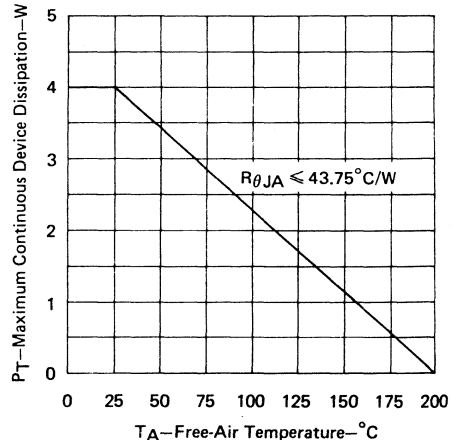

FIGURE 9
4. Derate linearly to 200°C free-air temperature at the rate of 22.9 mW/°C or refer to Dissipation Derating Curve, Figure 9.